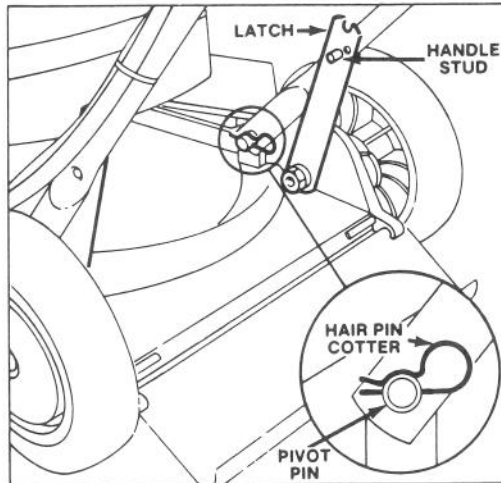

Figure 1
1. **LOWER HANDLES (Fig. 1)** – Push ends of handle together and install on pivot pins. Move handle and latches backward until handle studs snap into center hole. Push hair pin cotters through holes in pivot pins.